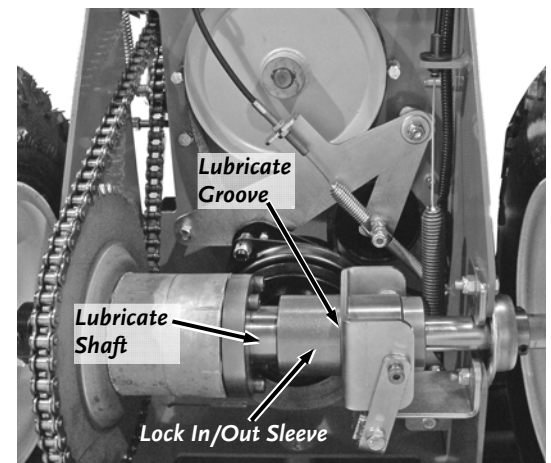

Figure 16
4. Clean the Lock In/Out Sleeve Shaft and Groove of any accumulated grass and debris with a cloth and lubricate the Shaft and Groove using SAE 30 oil (**Figure 16**).